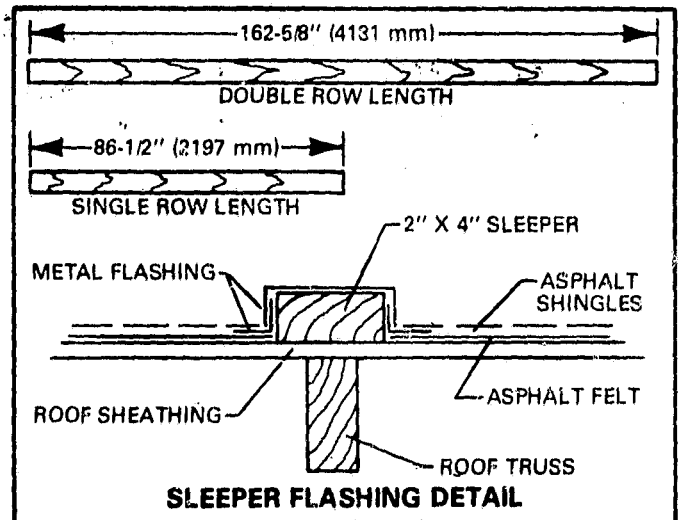

FIGURE 3
- 1 - Center sleepers over trusses and secure to roof. Figure 3 shows the sleeper flashed into the roof.